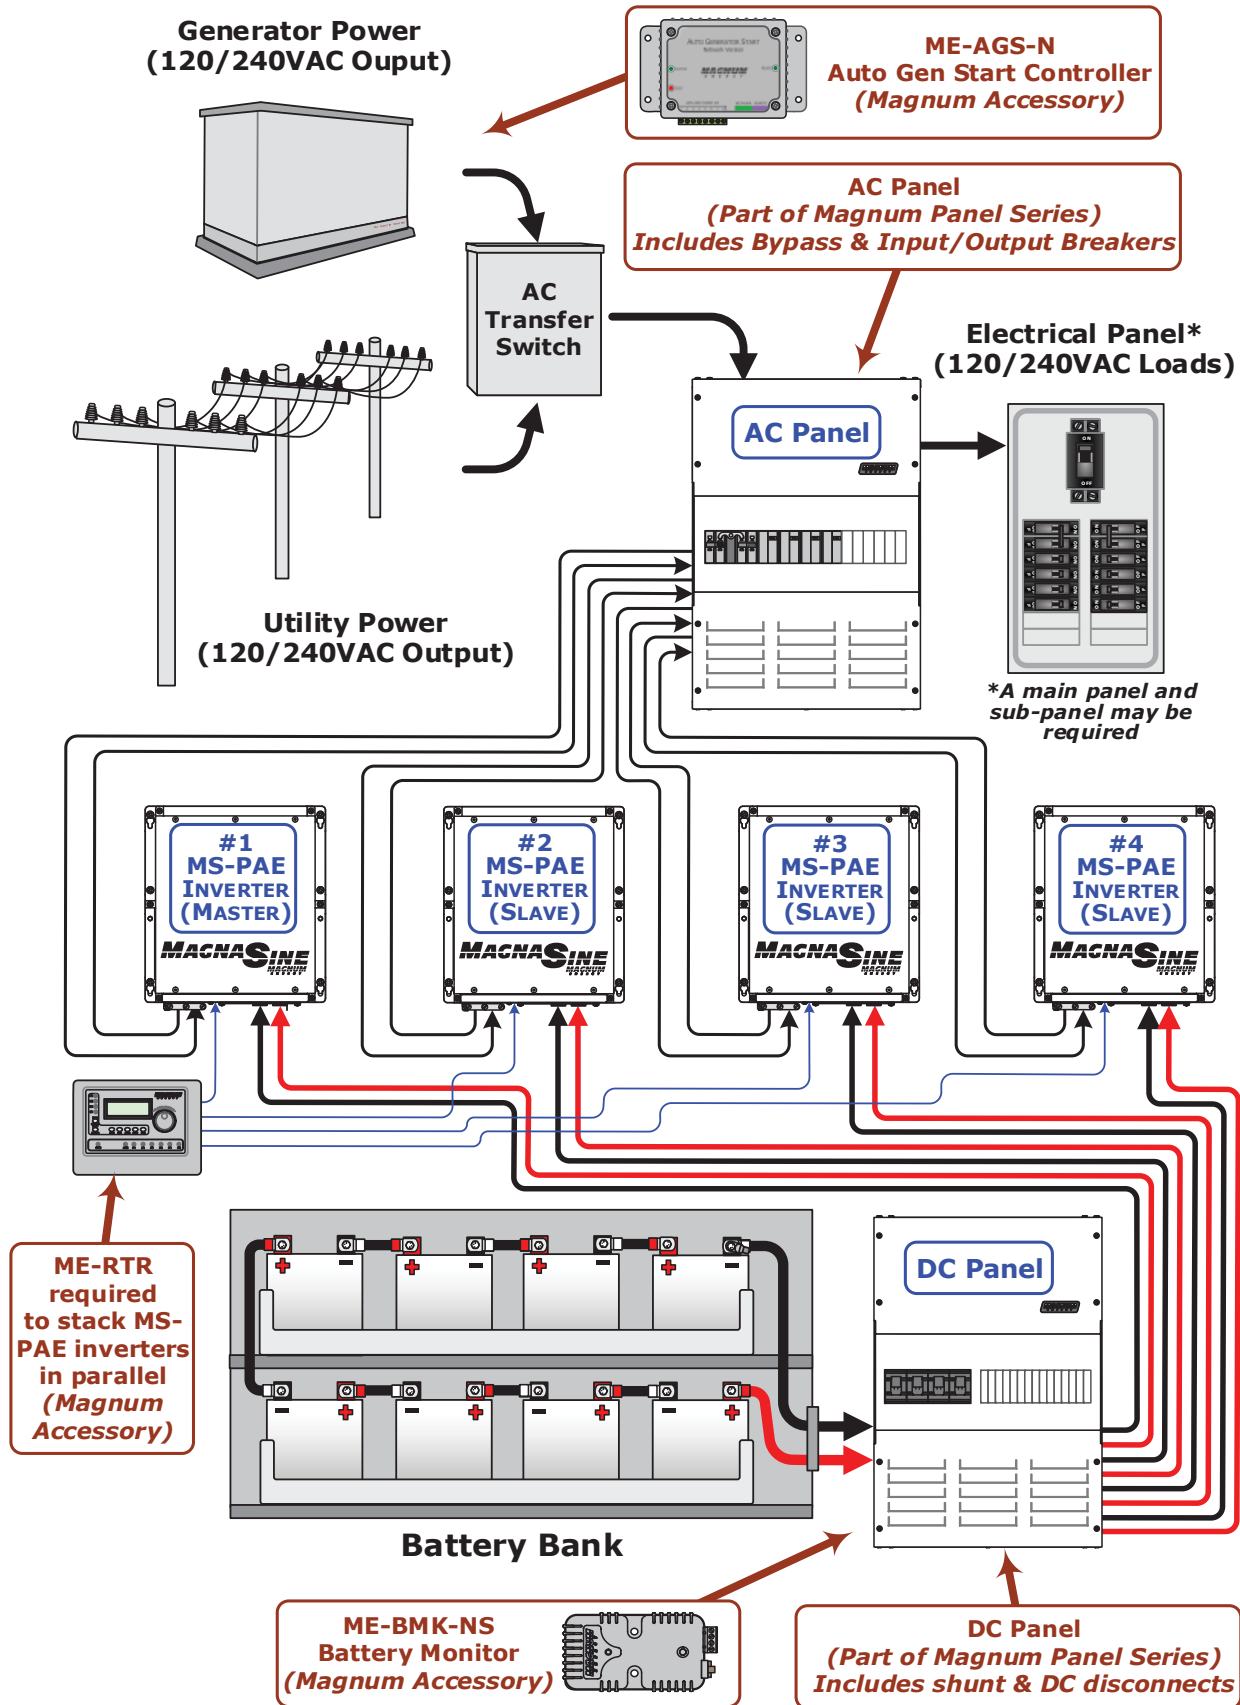
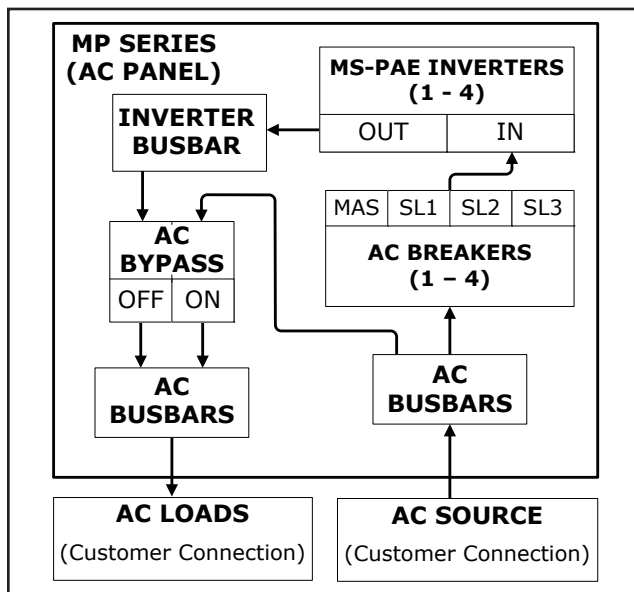

Figure 4-1, Simplified Installation Diagram – Multiple Parallel-stacked Inverters
Figure 4-2, Simplified Panel (AC Panel)
The AC and DC connections in a parallel system depend upon additional separate components (highlighted in **bold** in the two sections below). The Magnum Panel (MP) Series of enclosures (e.g., the AC Panel and DC Panel as shown in Figure 4-1) include all these separate components, with most of the necessary AC and DC wiring connections already completed for you. Figures 4-2 and 4-3 are simplified diagrams of the MP enclosure’s AC and DC Panels showing those connections and components. Refer to the MP Owner’s Manual for detailed instructions on parallel system connections.